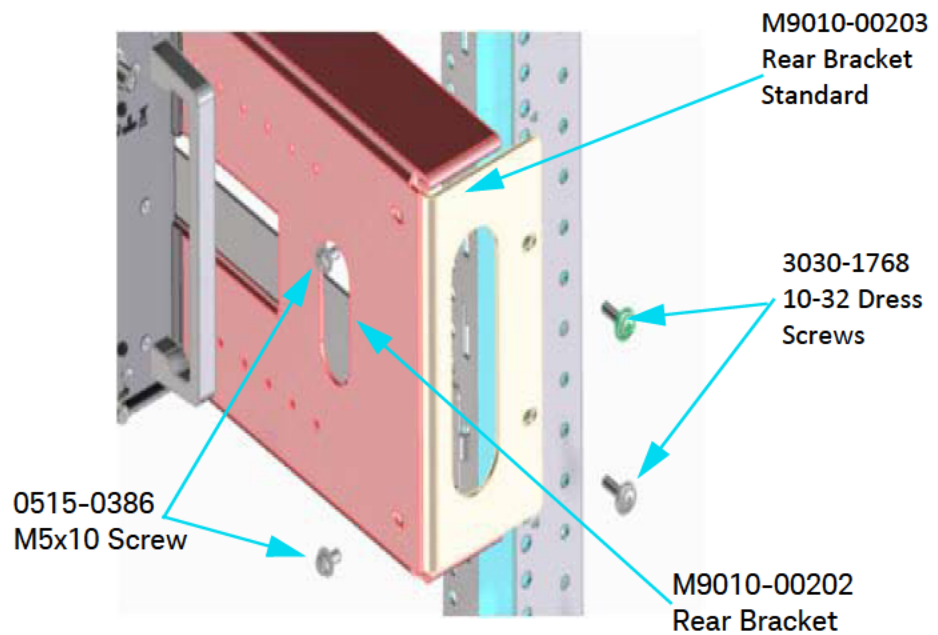

Figure 9 Attach Rear Bracket Standard to Rear Bracket and Rack Column
- 8** Identify where the Rear Bracket Standards connect to the rack. Install two sheet metal channel nuts (0590-0804) on each side of the rack. Use 10-32 Dress Screws (3030-1768) to connect each Standard to the rack. Refer to Figure 9.
- 9** Assemble the left and right Rear Bracket Standards to the left and right Rear Bracket. Use two 0515-0386 M5x10 screws per bracket. Refer to Figure 9.
- 10** Attach 10-32 Dress Screws (3030-1768) through the Rear Brackets, through the rack column and into the sheet metal channel nuts. Refer to Figure 9.